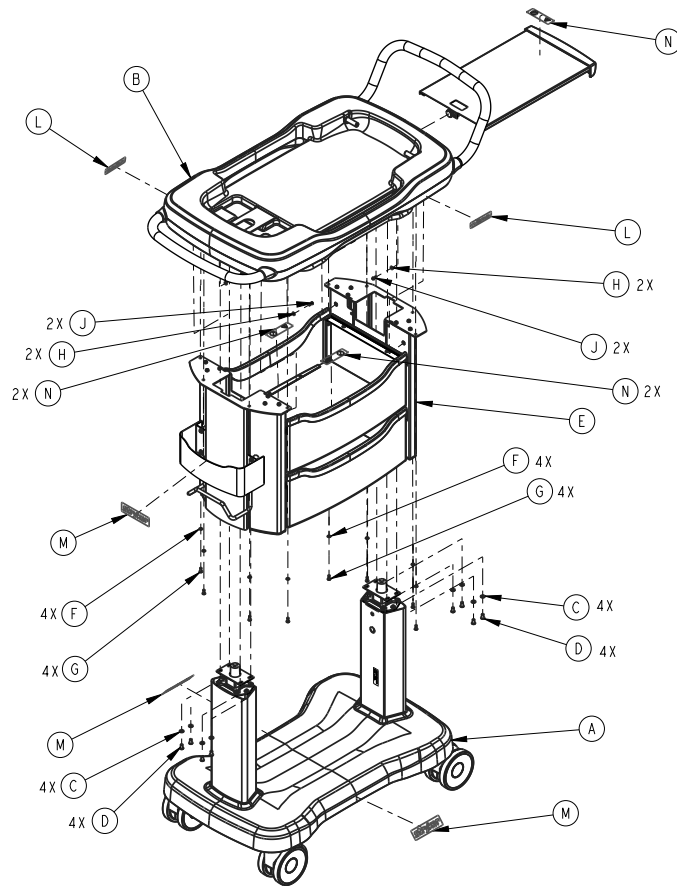

Figure 5 – Column and drawer assembly
2. Using a T15 Torx driver, remove the four screws (J) and washers (H) that secure the columns to the valance brackets (Figure 5). Save the screws and washers.